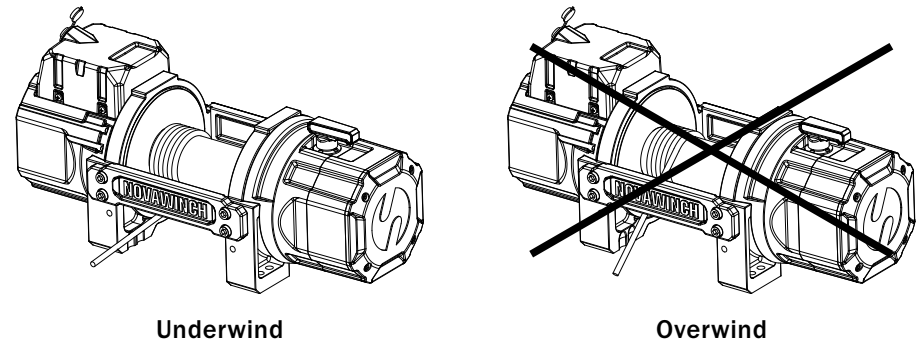

Figure 5
**CAUTION** Do not substitute any strength weaker than Grade 8.8 Grade marking is found on the bolt head and is pictured in Figure 5.